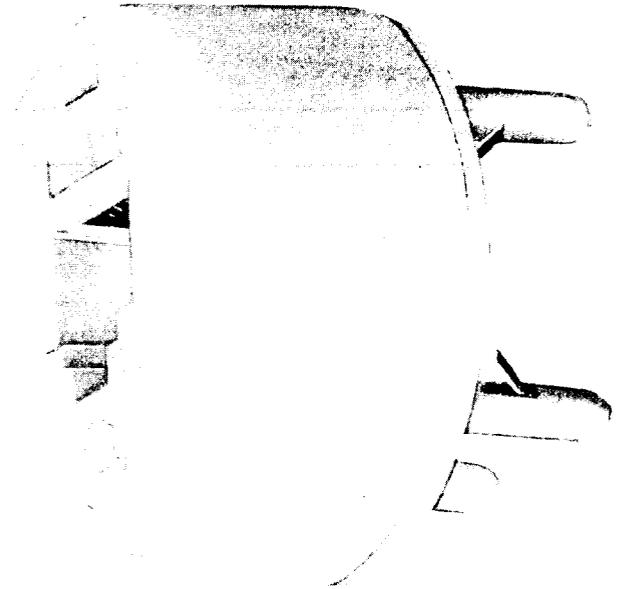

Fig. 3—1A Converter
**2.03** The 1A converter (Fig. 3) is used to permanently convert 4-pin jacks to the modular system.